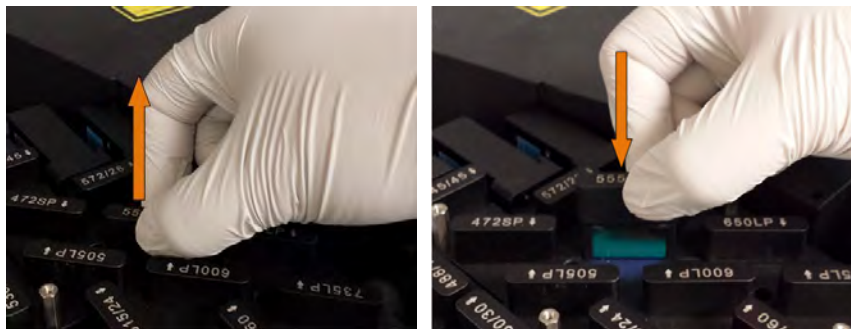

Figure 2-6 Remove the Old Filter and Insert the New Filter
- 5 Gently hold the selected optical filter or dichroic mirror and pull it upward to remove it from the slot. Insert the new optical filter or dichroic mirror into the slot as shown in Figure 2-6. Record the position, wavelength and arrow direction for each optical filter and dichroic mirrors. Install the filter module cover by screwing in the two mounting screws. Close the top cover of the instrument. Press the power button on the front panel of NovoCyte to turn on the instrument.